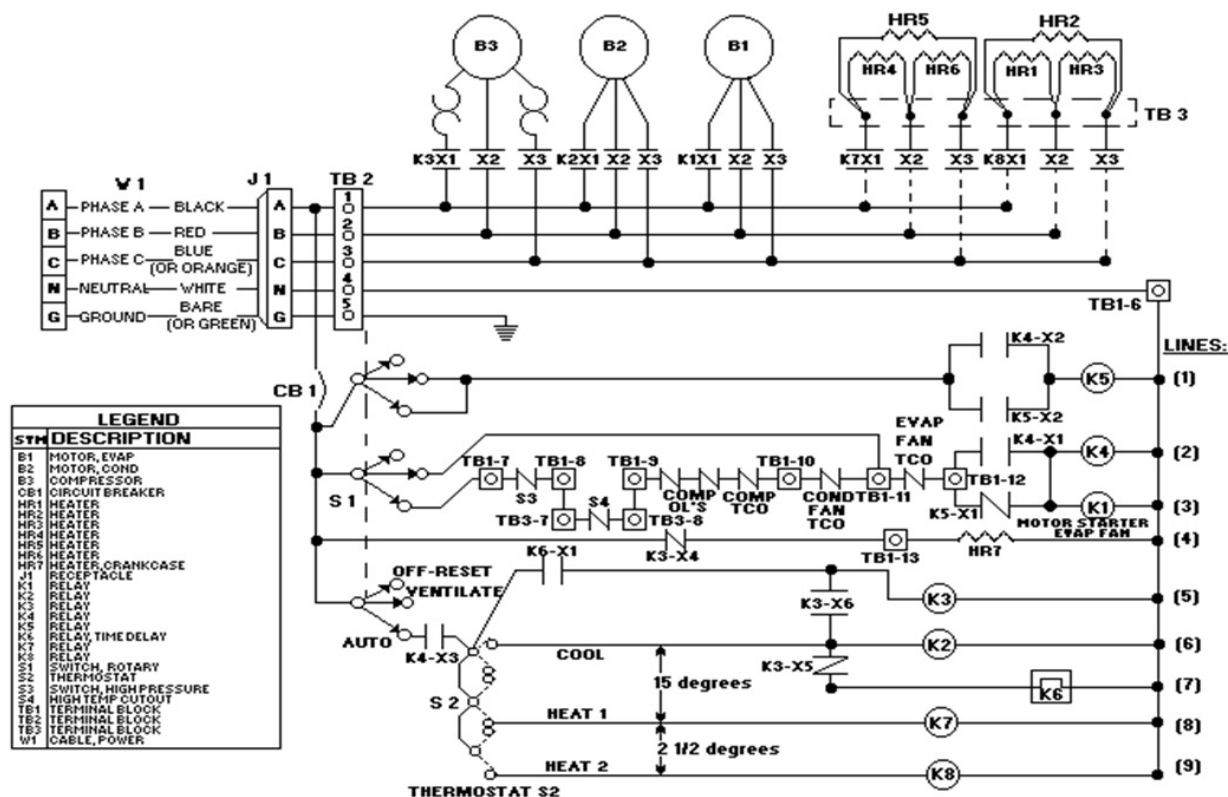

Figure 1-32. ECU Schematic.
In figure 1-32, the ECU schematic is shown. The ECU schematic is broken down into the VENTILATE and AUTO modes. Other modes are not covered.
Let's go through a path in the system while it is in VENTILATE mode. Using figure 1-32, start on the left, just above the legend and see that there are three phases, A, B, and C. There is also a neutral wire that is white and a green ground wire. Start with Phase A (black) and follow it to J1 which is a receptacle. Continue from left to right to TB2 (terminal block 2). From TB2 the black wire splits off to a normally open contact K3-X1, X2, and X3. Current also passes to normally open contacts at K2X1, 2, 3, and K1X1, 2, and 3. Finally, power travels to the normally open contacts for the heater relays. The same sequence takes place for the B and C phase.
1. According to the current flow diagram (fig. 1-32), what are the three phases in this circuit?
2. In figure 1-32, if the evaporator fan thermal cut out remains closed, where will current flow go to next.
3. Where does the neutral tie into to complete the circuit in figure 1-32?
4. In figure 1-32, what contact closes and allows current to flow to the K5 coil?
5. What contact in figure 1-32 closes and allows current to flow to the K3 motor starter?